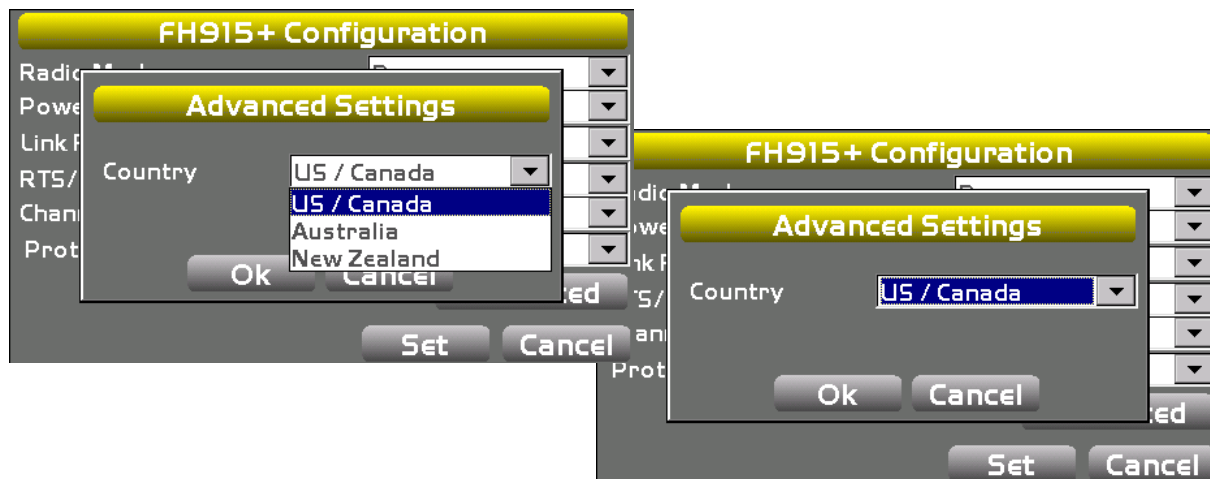

Figure 23: Setting the Country for the Project
4. Tap **Advanced**, select the country appropriate to your project, and tap **OK** (Figure 23).